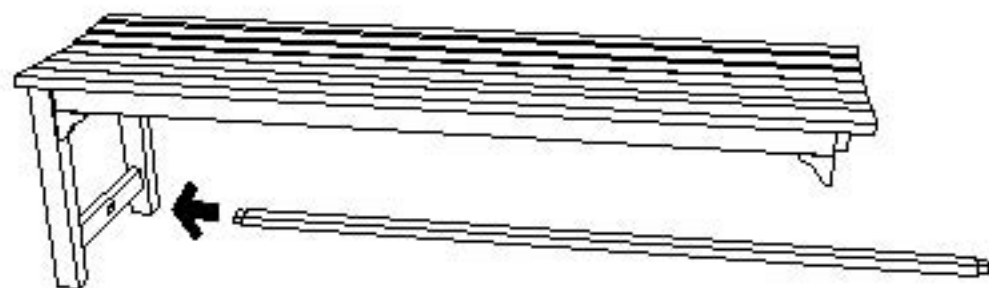

fig 3.
4. Insert the cross of the leg. ( Fig. 3 )